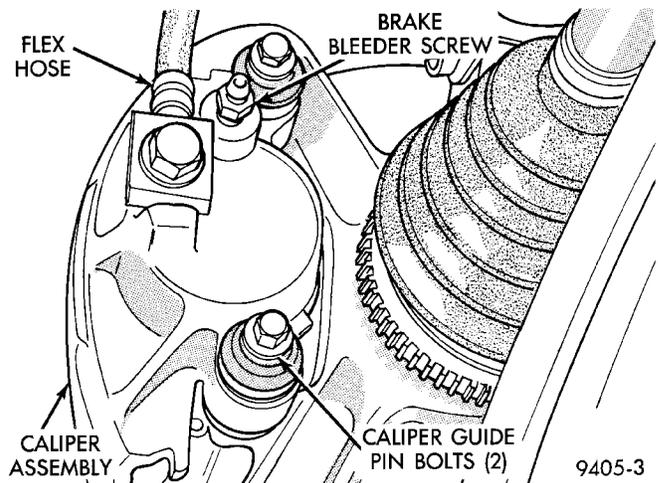

Fig. 35 Open Bleeder Screw at Least One Full Turn
(2) Open the bleeder screw at least **one full turn** or more to obtain an steady stream of brake fluid (Fig. 35).
(3) After 4 to 8 ounces of fluid has been bled through the brake and an air-free flow is maintained in the clear plastic hose and jar, close the bleeder screw.
(4) Repeat the procedure at all the other remaining bleeder screws. Then check the pedal for travel. If pedal travel is excessive or has not been improved, enough fluid has not passed through the system to expel all the trapped air. Be sure to monitor the fluid